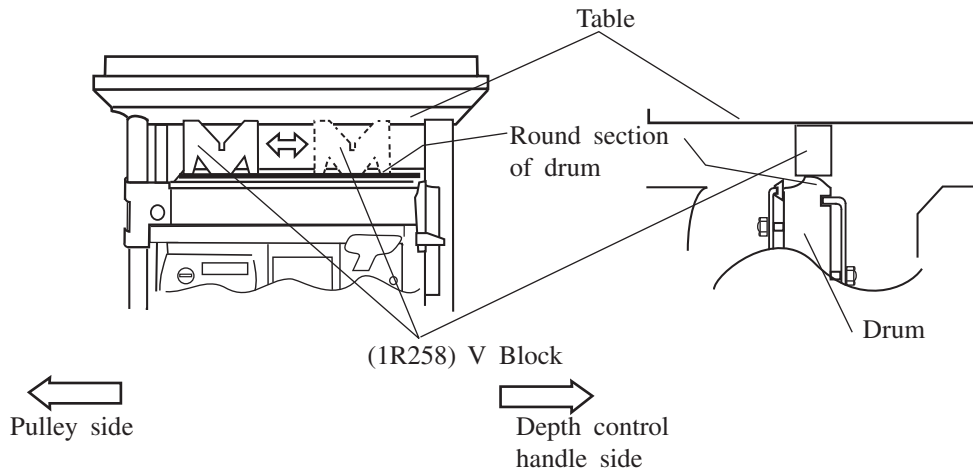

Fig.7
(See FIG.7)
(3) Insert V block between table and round section of drum and check the distance of drum's round section and table on left and right side. (See FIG.7)